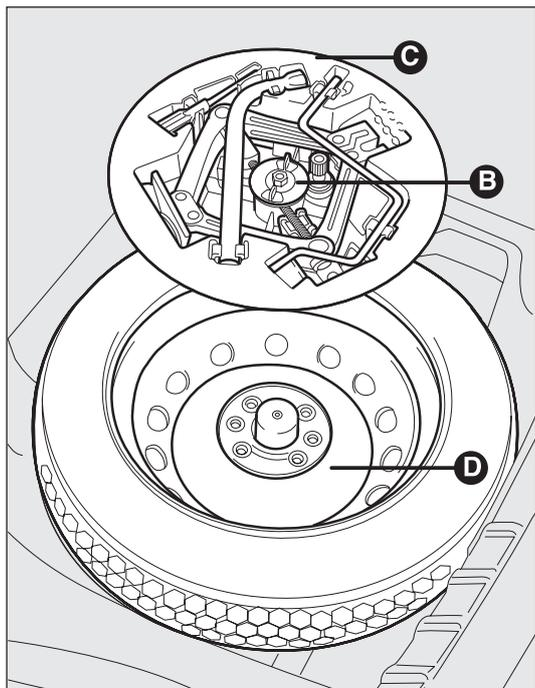

fig. 122
- loosen the clamping device B-fig. 122;
- stow the space-saving wheel D-fig. 122 in the space provided in the boot;